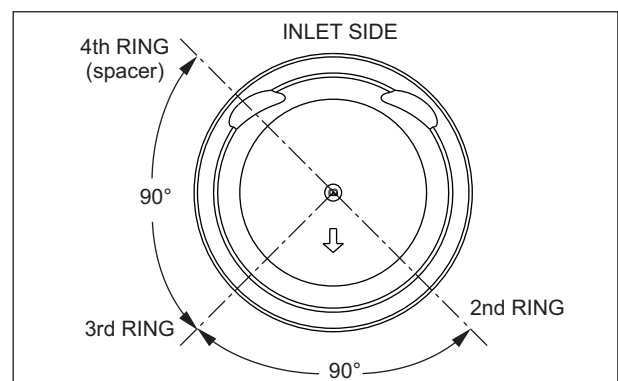

Fig. 3.98
- Align the end gap of 3rd ring (oil rail top) at 90 degree from the end gap of the second ring as shown. (Fig. 3.98)
- Similarly, align the end gap of 4th ring (spacer) at 90 degree from the end gap of the third ring as shown. (Fig. 3.98)